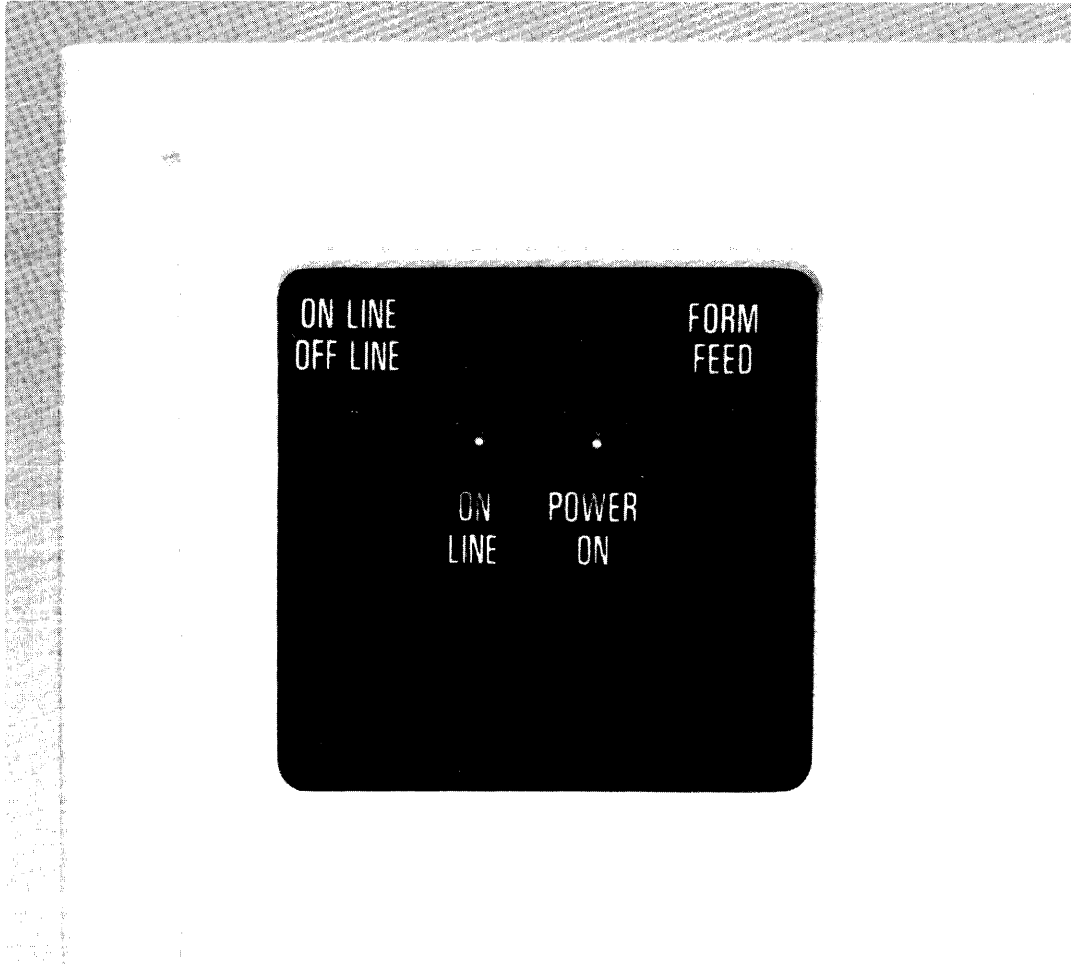

Figure 2-2. Operation Panel
The Operation Panel (Figure 2-2) is located on the top of the cover in the left rear corner of the printer. The panel consists of two switches (ON LINE/OFF LINE and FORM FEED) and two indicator lights (ONLINE and POWER ON).
6. Check to see if the POWER ON indicator is lit on the Operation Panel (see Figure 2-2). The ON LINE indicator will also light after a short delay. If the POWER ON indicator is not lit, check first to ensure that the power outlet is active. This can be done by plugging in a lamp and seeing if it lights. If the power outlet is working, turn off the printer and call your Customer Services Representative.